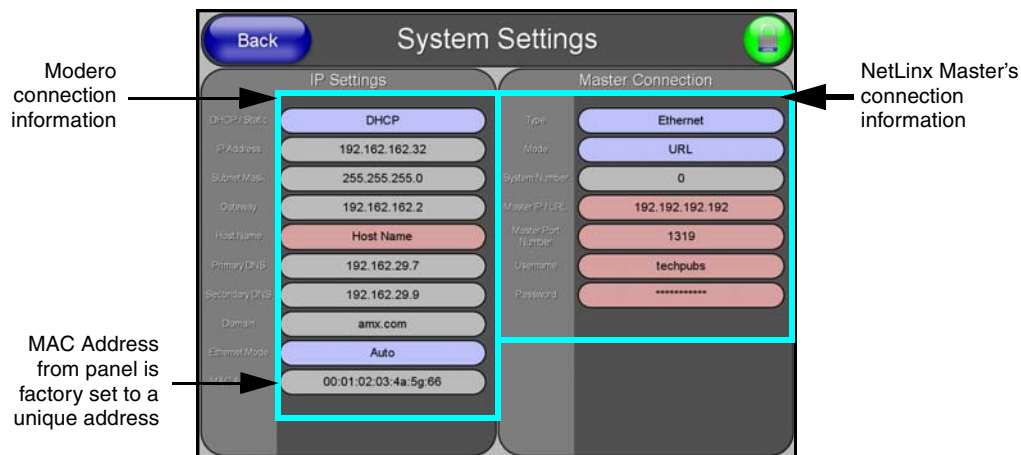

FIG. 73 System Settings page
11. Press the **System Settings** button (located on the Protected Setup page) to open the System Settings page (FIG. 73) and begin configuring the communication settings on the panel to match those of the target Master.